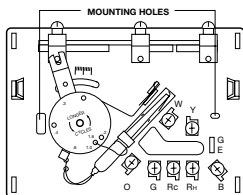

Figure 3
4. Mark placement of mounting holes (Figure 3). Set base aside.